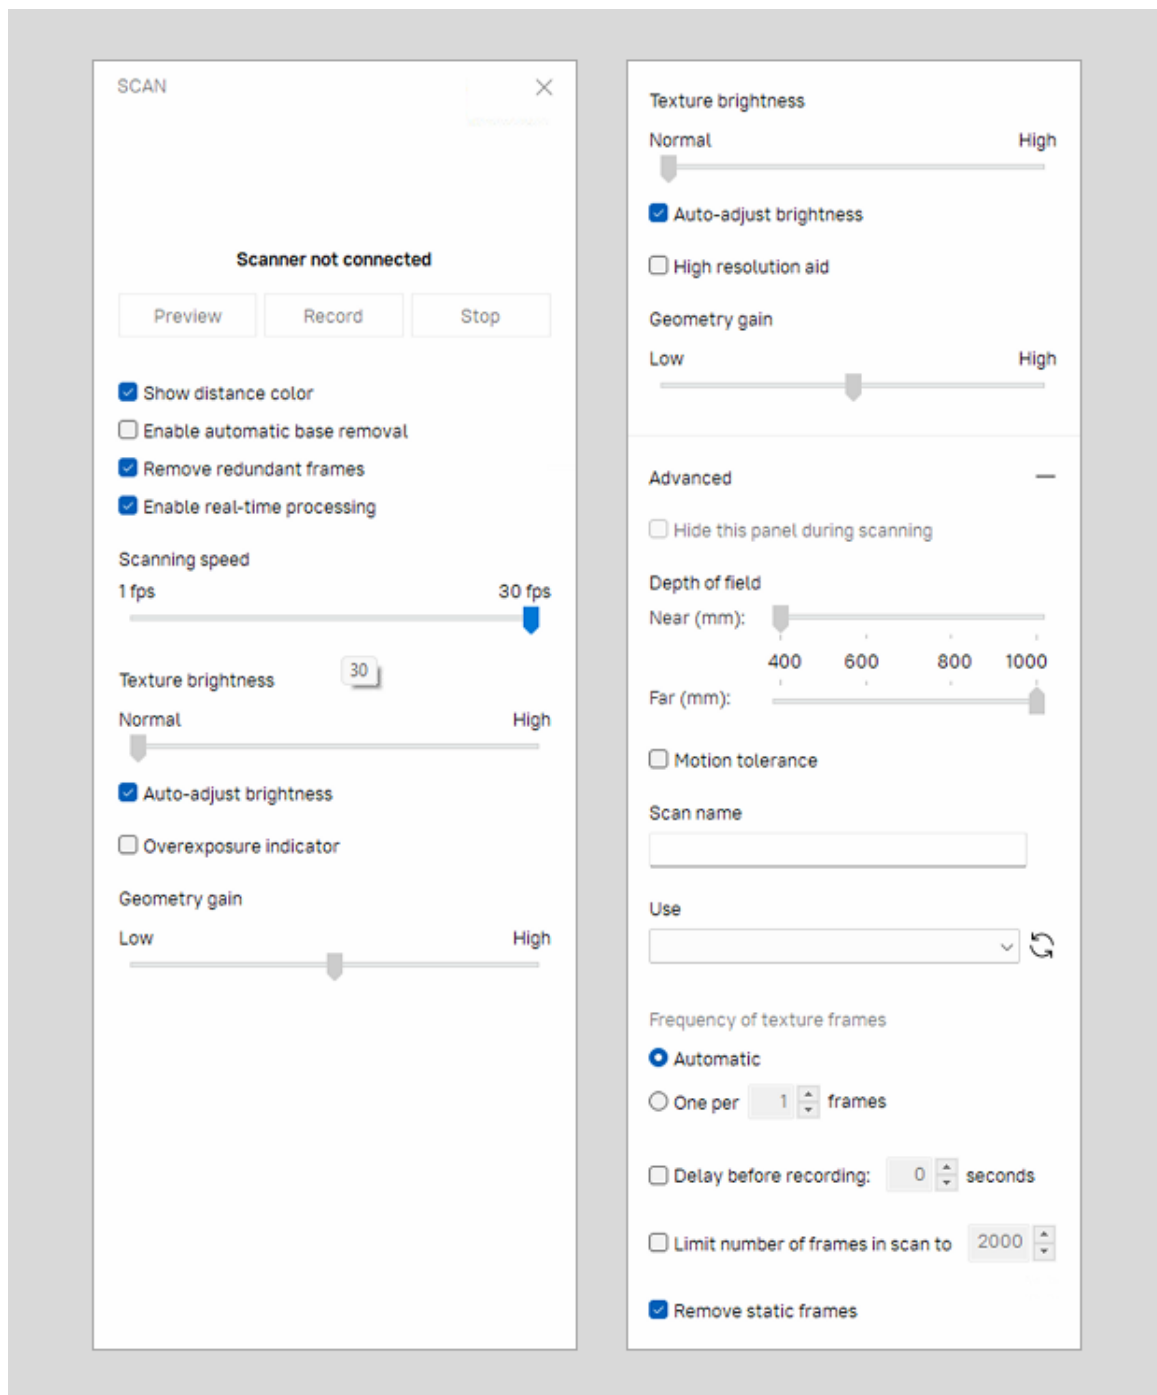

Figure 80: Scan panel: *Advanced* section hidden (on the left) and revealed (on the right).
1. Check the *One per ... frame* radio button (see Figure 80, right).